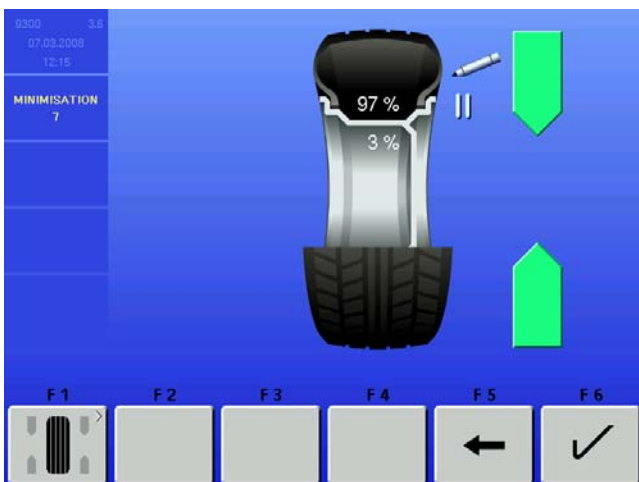

Figure 33
9. Rotate the assembly until the arrows turn Green as shown in Figure 33. Mark the tire with two (2) marks.